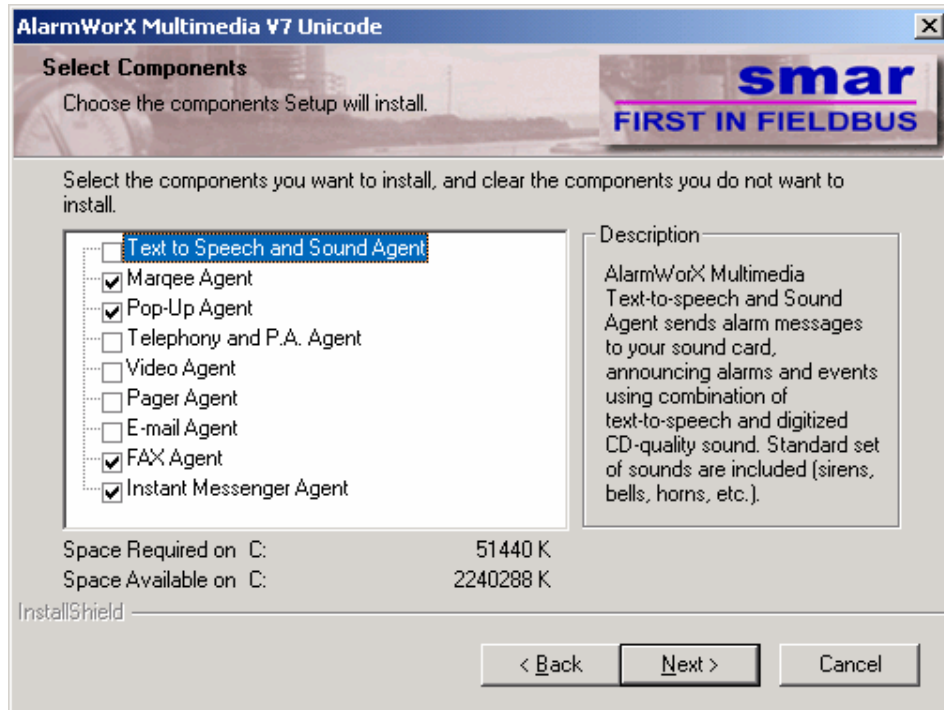

Figure 1.6 Select Components Dialog Box
- The **Select Components** dialog box appears, as shown in **Figure 1.6**. As you can see, AlarmWorX Multimedia contains many multimedia "agents" for alarm notification, such as video, paging, and e-mail. Here you can customize your installation by selecting which agents to install. This is helpful if you have limited space on your hard drive or if you do not expect to use one or more multimedia agents. Click on the appropriate boxes to select the agents that you wish to install. The space required on your installation directory (as well as the space available on the directory) is displayed at the bottom of the dialog box. Once you have made your selections, click the **Next** button to continue.